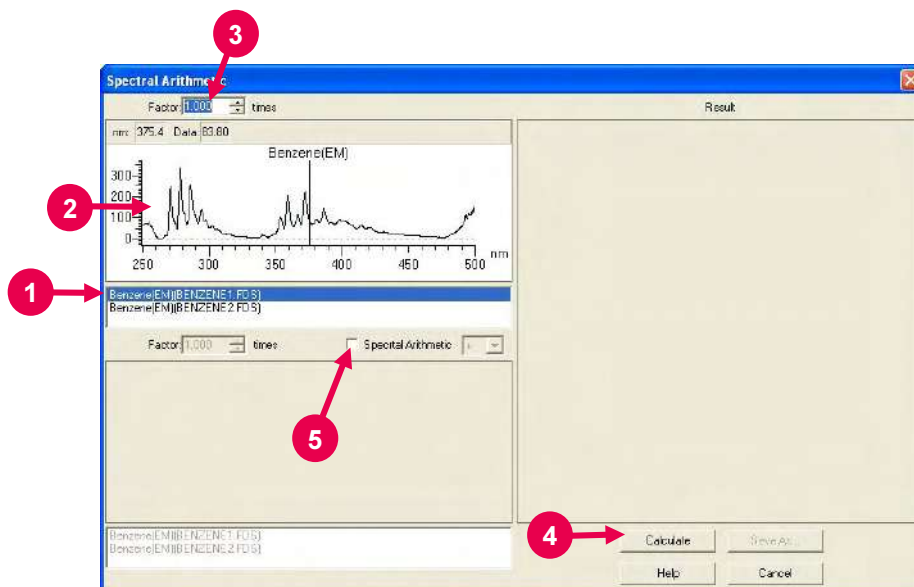

Fig. 7-29
Click the  (spectral calculation) button on the Processing toolbar. The Spectral Arithmetic window will open as shown in Fig. 7-29. (Or select the Spectral Arithmetic command from the Data menu.)
- (1) The sample names for the files opened in the window (file names in parentheses) are listed. From this list, select a file for arithmetic operation. (Refer to ① in Fig. 7-29.)
- (2) The spectrum selected in (1) is displayed. (Refer to ② in Fig. 7-29.)
- (3) Set a factor for the spectrum selected in (1). (Refer to ③ in Fig. 7-29.)
- (4) For multiplying the spectrum by the factor, click **Calculate**. (Refer to ④ in Fig. 7-29.)
- (5) For arithmetic operation between two spectra, put a check mark in the Spectra Arithmetic check box. (Refer to ⑤ in Fig. 7-29.)